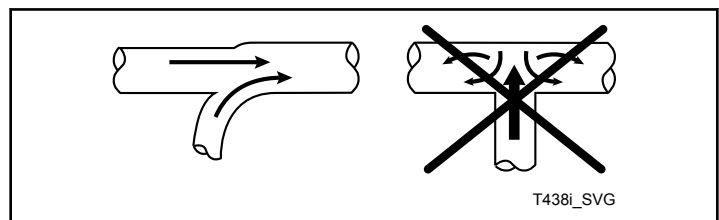

Figure 19
**NOTE: Never connect a tumble dryer duct at a 90° angle to the collector duct. Refer to *Figure 19*. Doing so will cause excessive back pressure, resulting in poor performance. Never connect two tumble dryer exhaust ducts directly across from each other at the point of entry to the collector duct.**